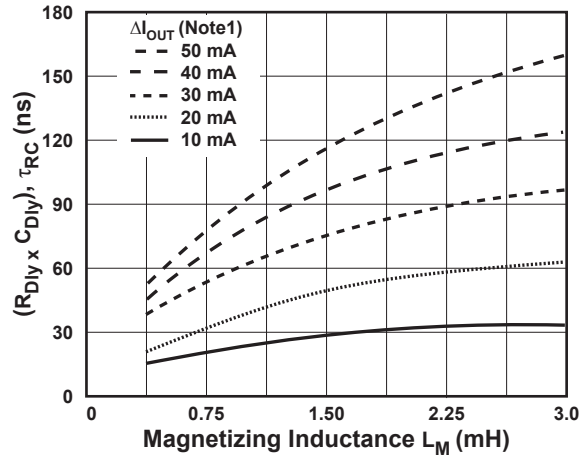

Figure 12.7 : T_{ON} Compensation Chart R_{DS(ON)} = 55-250Ω
- Find the curve that best matches this difference from Figure 12.7.